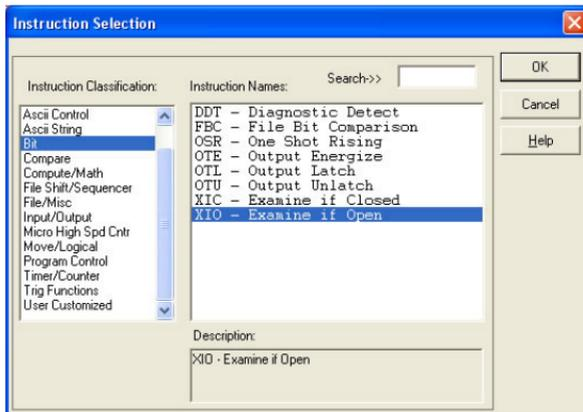

Figure 111: XIO Instruction Selection
- Select the “XIO” instruction from the “Bit” classification, then click OK. Refer to Figure 111.